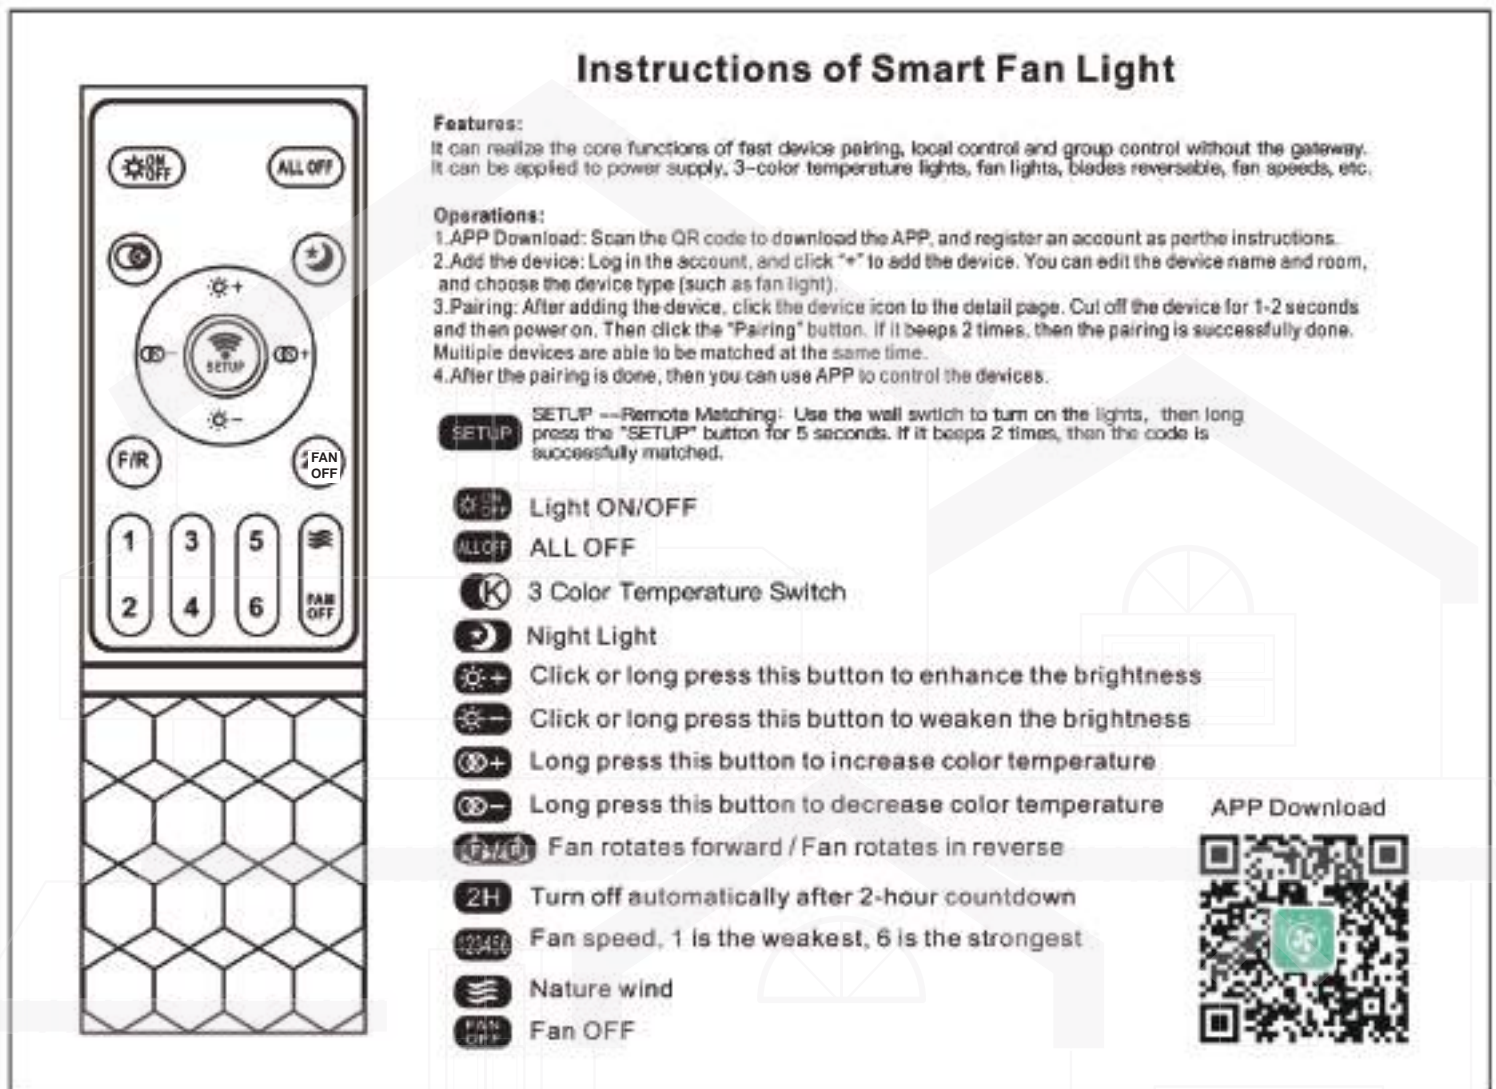

Figure 1
2. Remote functions: (Figure 1)